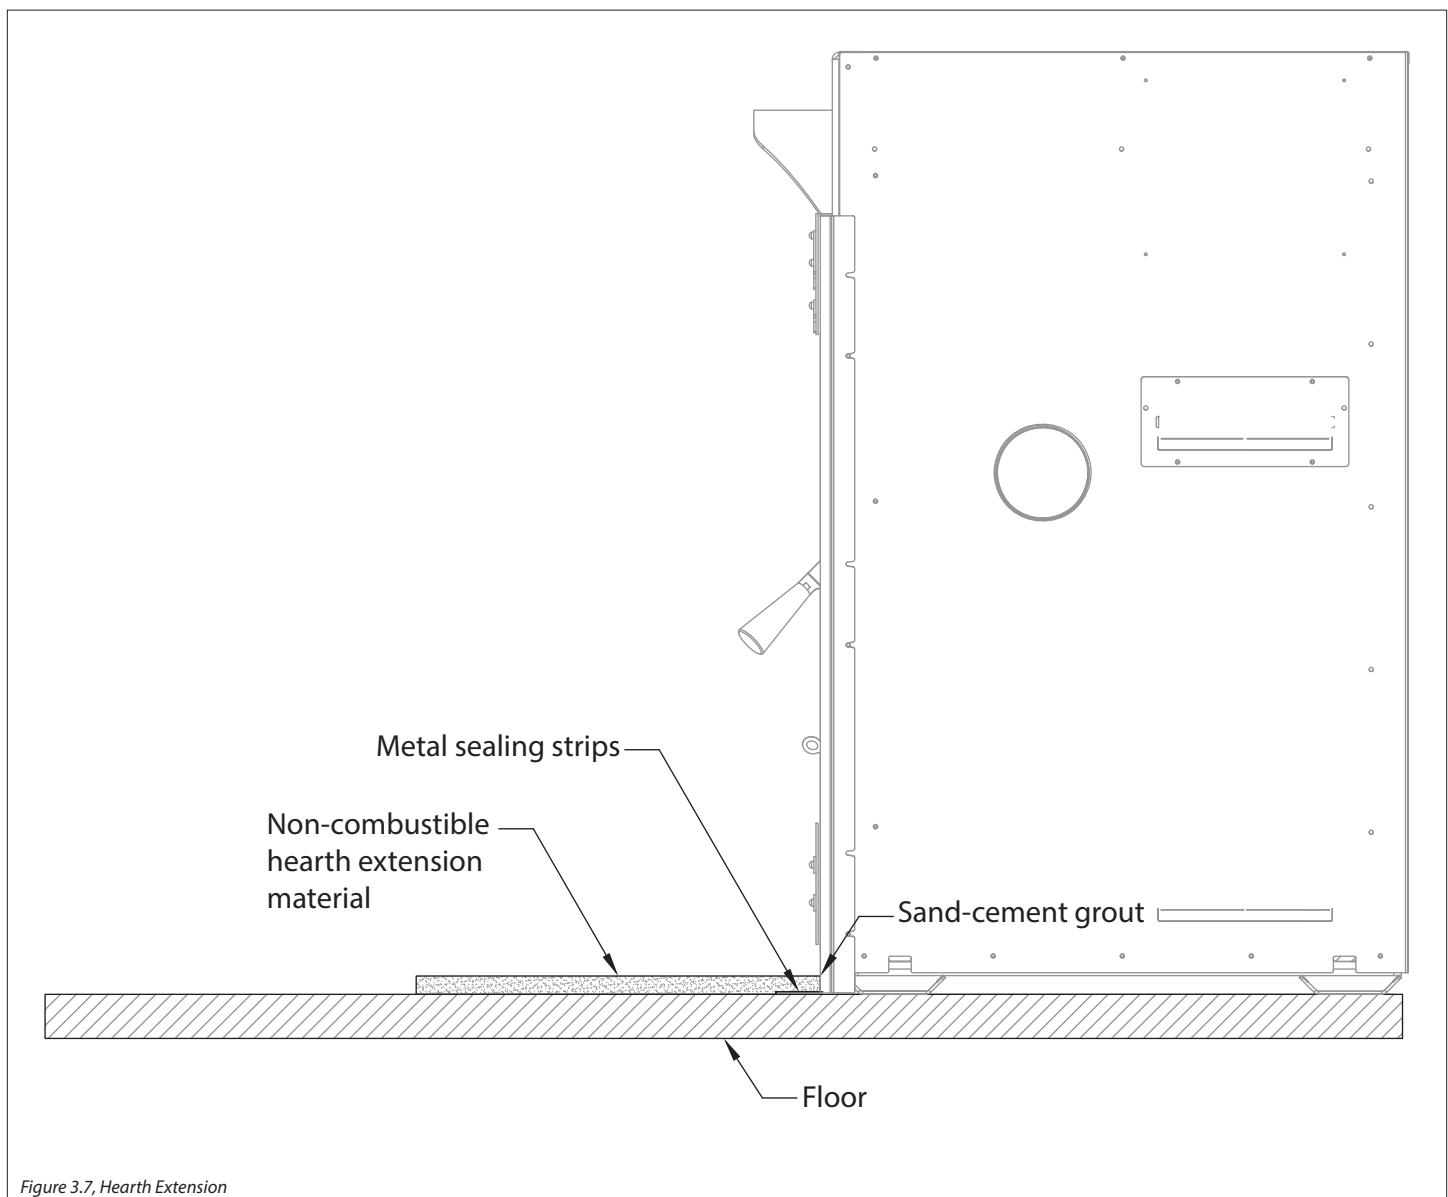

Figure 3.7, Hearth Extension
- An optional air trap can be used in venting configurations 1 through 3 in Figure 3.7 below.